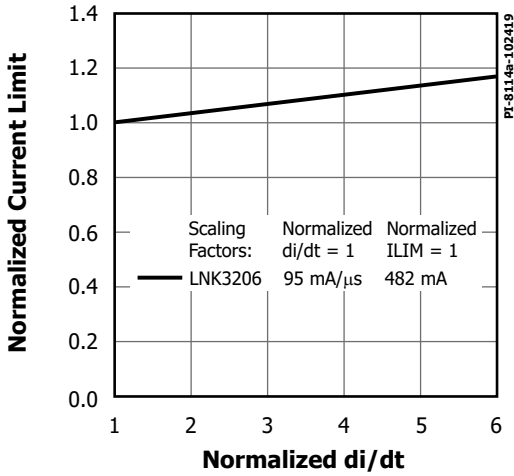

Figure 20. Default Current Limit vs. di/dt.
- For current limit at other di/dt values, refer to Figures 20 and 21.